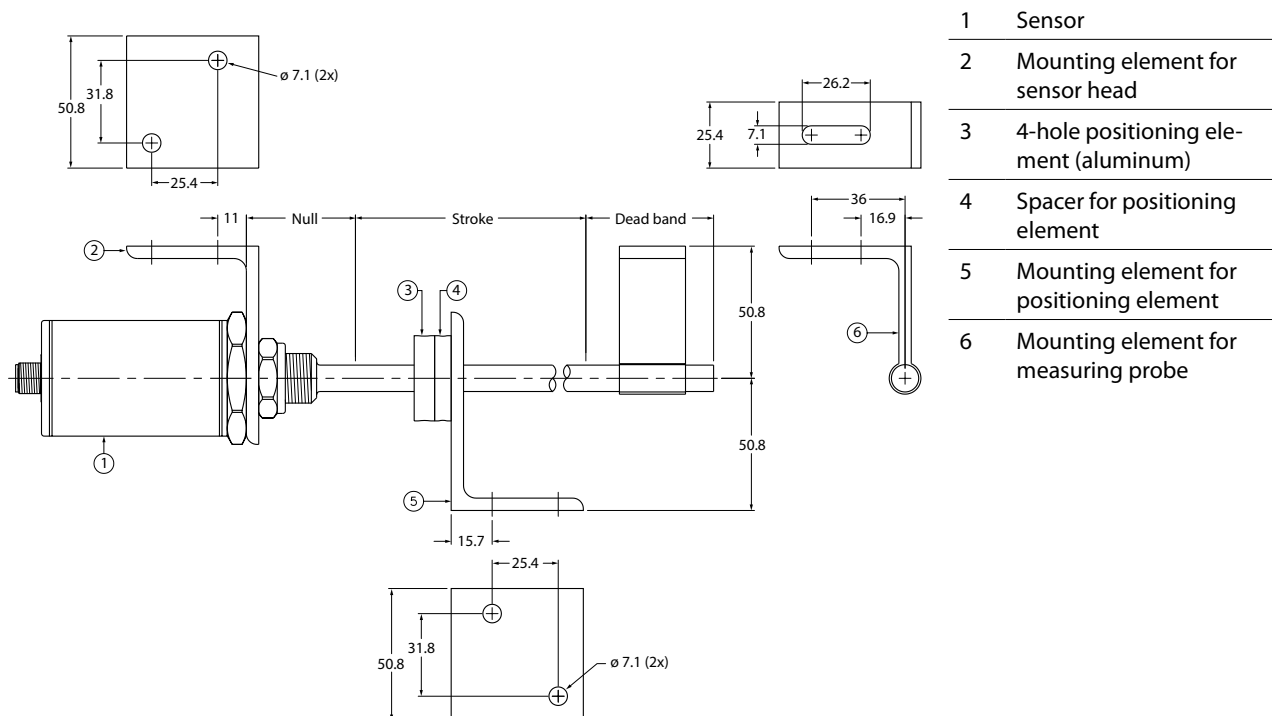

Fig. 10: Mounting the positioning element (dimensions in mm)
- Sensors with measuring probe lengths of 750...1800 mm: Fit additional mounting elements as per Fig. 10.